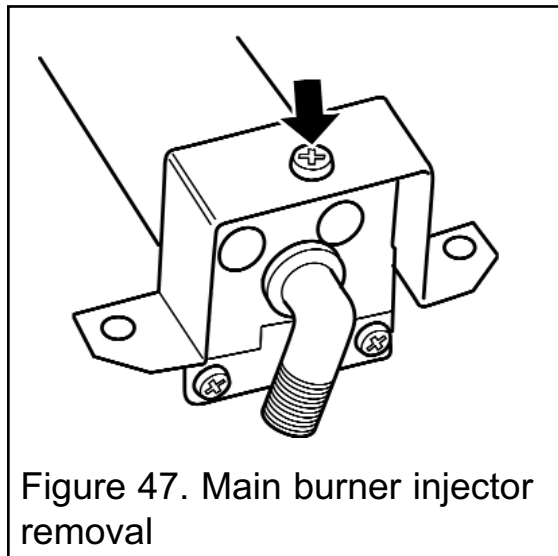

Figure 47. Main burner injector removal
(See figure 47).
2. Remove the burner clamping screw (See figure 47)